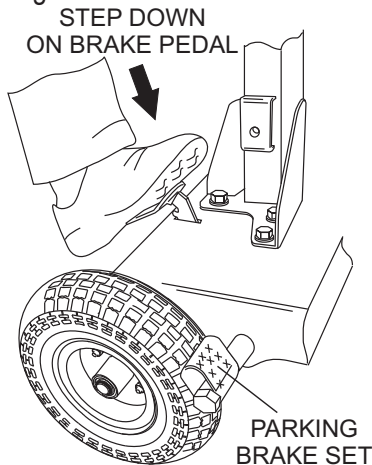

Figure 7. Parking Brake (Set Position)
- To apply the parking brake (Figure 7), step on the brake pedal and pull back on the T-handle. This will lock the rear wheels. For additional safety use chock blocks to prevent rolling.